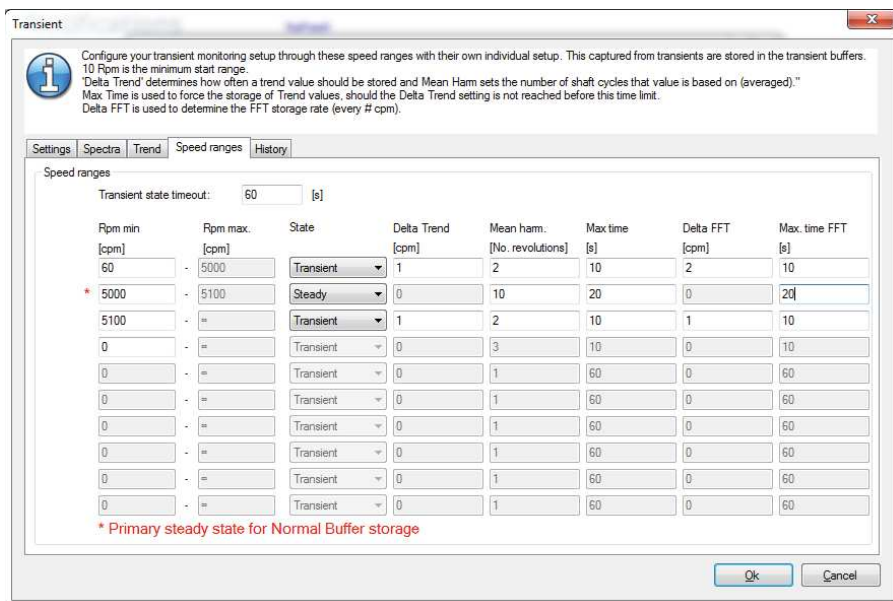

Fig. 8. Speed range setup.
5 Go to the **Speed ranges** tab and define the steps according to your needs (→ **fig. 8**). The reason for this is that the **Mean harm** parameter (number of revolutions) needs different values for different speed ranges in order to have better measurement accuracy at low, intermediate and high speeds. Each step will be defined by:
- 6 You always need to configure at least one normal state (steady state) in the steps and an over-speed step after it, as shown in **fig. 8**.